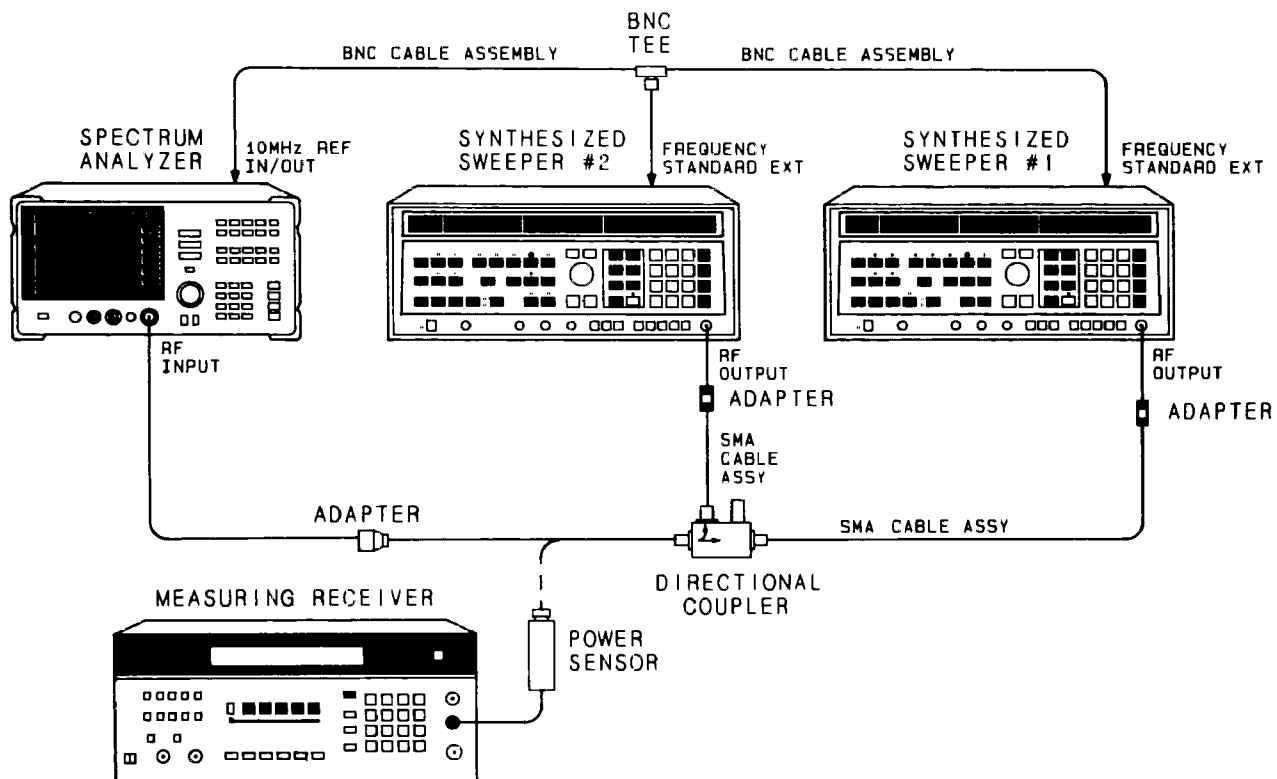

Figure 3-19. Third Order Intermodulation Test Setup
1. Connect the equipment as shown in Figure 3-19.